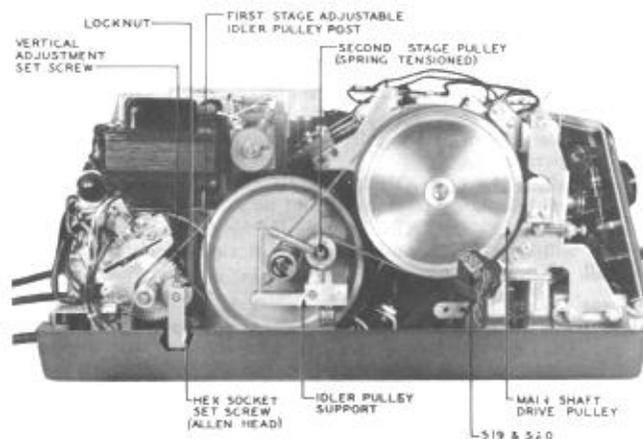

Fig. 2—1B Telephone Answering Set—Left Side
- 2.27 The drive belt in the first stage is adjusted as follows (see Fig. 2):
- Loosen the hex socket set screw in the spring tension idler pulley support with the 3/32-inch hexagonal key (Allen) wrench (see Fig. 2).